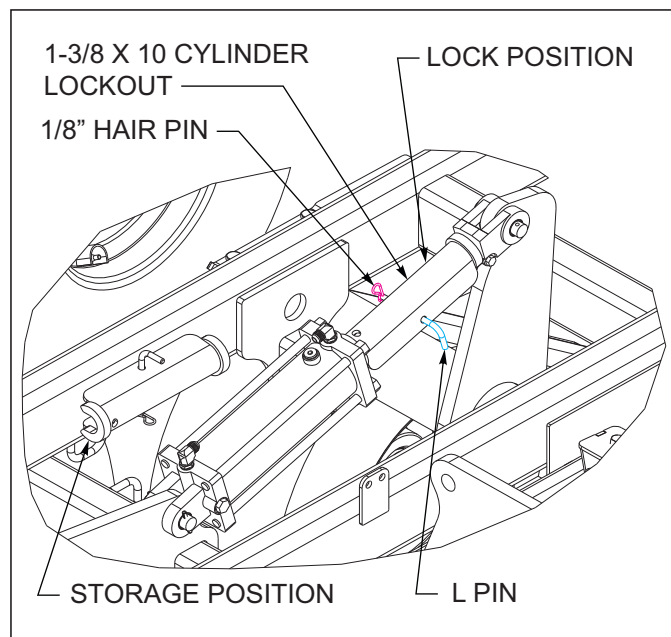

Figure 4-8: Transport Locks
14. Fully extend the lift cylinders and install cylinder lockouts in the lock position before transporting *See Figure 4-8*. Failure to lockout the cylinders can allow the unit to settle during transport, which can result in serious injury or death and cause damage to equipment. Install lock pins in the wing locks before transporting.